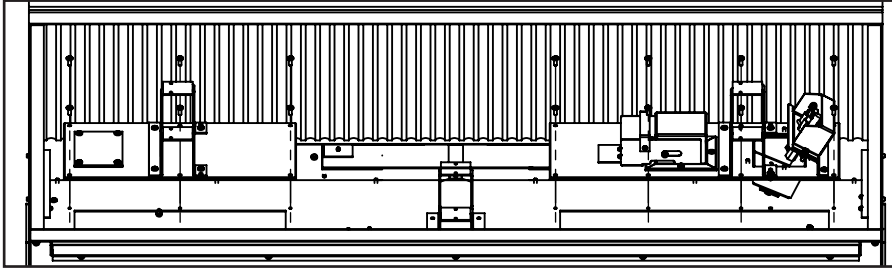

Figure 10. Removing Access Door
2. Remove the (14) T-20 bolts retaining the access panels as shown in Figure 10.